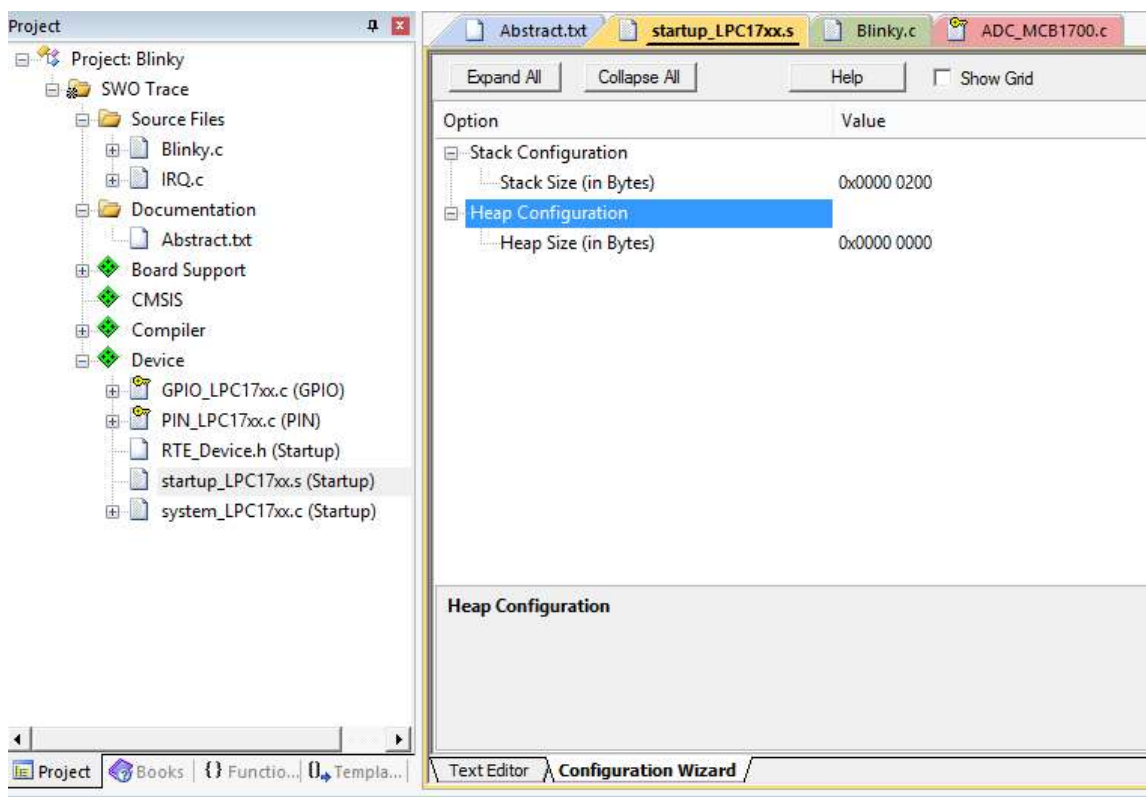

Figure 15: Project Files
6. Double click on *startup_LPC17xx.s* to open the editor. Click on the "**Configuration Wizard**" tab at the bottom of the editor window as shown in Figure 15. The Wizard window converts the "Text Editor" window so that the programmer may view the configuration options more easily. It is possible to adjust the stack and heap sizes of the LCP1768 chip here if necessary.